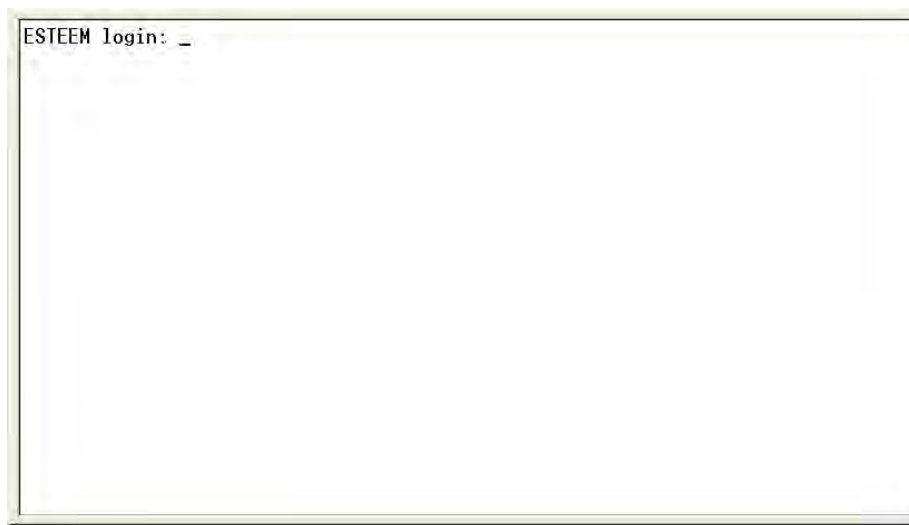

Figure 1: RS-232 Port Log-in Screen
5. Press the Enter key and you will be at the Configuration Menu 210 login prompt. See Figure 1.